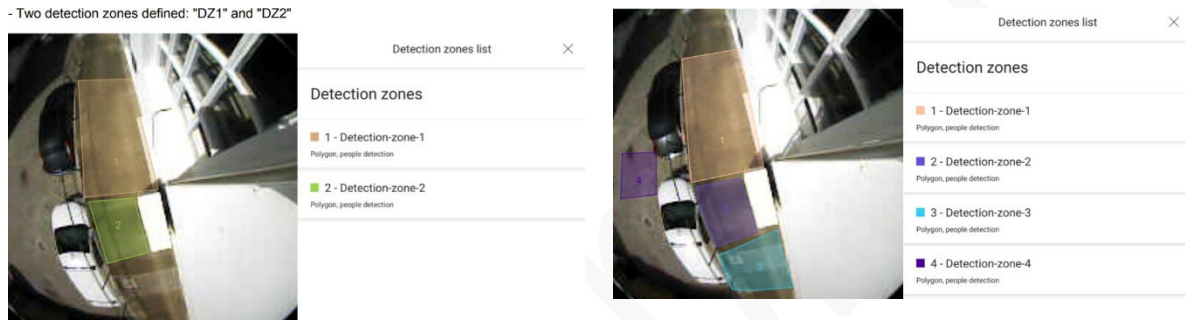

Figure 2: Initial tests 4 Detection Zones
4 Detection Zones (DZ) were commissioned, as shown in Figure 2: Initial tests 4 Detection Zones.